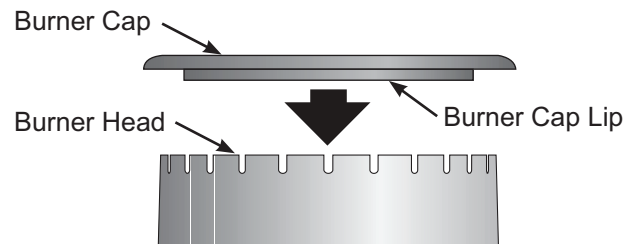

Figure 24: Burner Cap
1. Remove the burner cap from the burner head (see Figure 24). Clean the cap with hot soapy water and dry thoroughly.